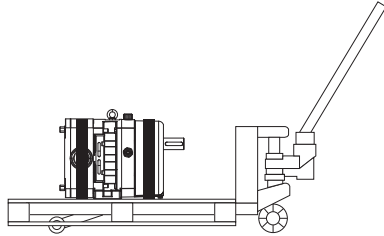

Fig. 39 Moving with pallet truck
- Ensure that the pump is adequately secured to the pallet, for example, with straps; see Fig. 39, "Moving with pallet truck," page 34.